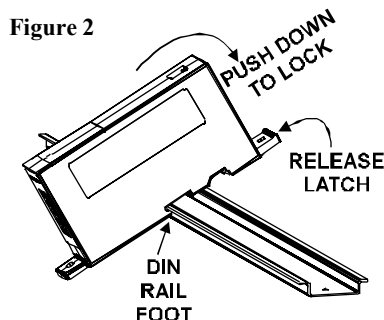

Figure 2
4. To install a DGS surge protector on a Din Rail, locate the Din Rail foot over the Din Rail and securely push the brass clip onto the Din rail. Rotate downward and push the DGS onto the Din rail until the latch snaps on to the rail. (see figure 2). To remove a module, gently pull the release latch forward and rotate the DGS upward off of the Din Rail. The surge protector is **now securely grounded to the Din Rail**. An existing or customer supplied Din Rail can be used providing the rail is securely connected to the correct ground (see grounding section).